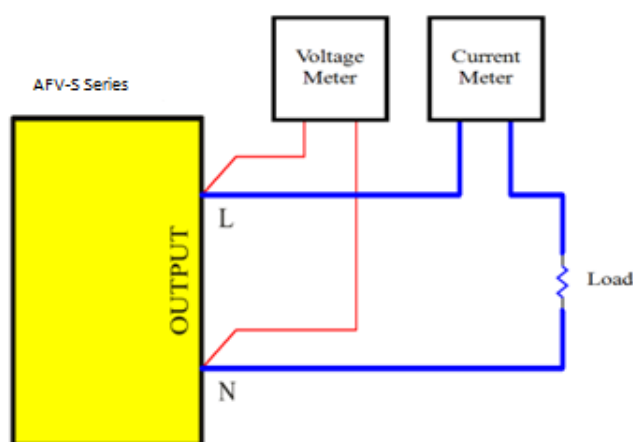

Figure 4.19 Instrument connection for calibration
2. Connect the product with the current meter and the load with 5Ω and the rated power exceeding 2000W (refer to Figure 4.19).